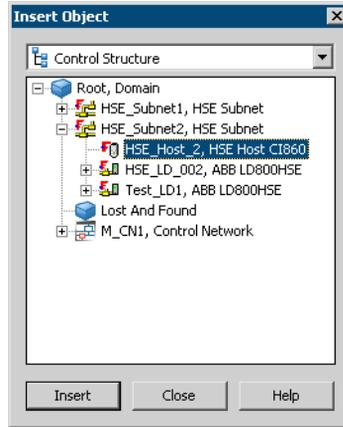

Figure 188. Insertion of an HSEHostCI860 Object
4. Select the appropriate HSEHostCI860 object from an HSE Subnet in the following dialog (refer to Figure 188).